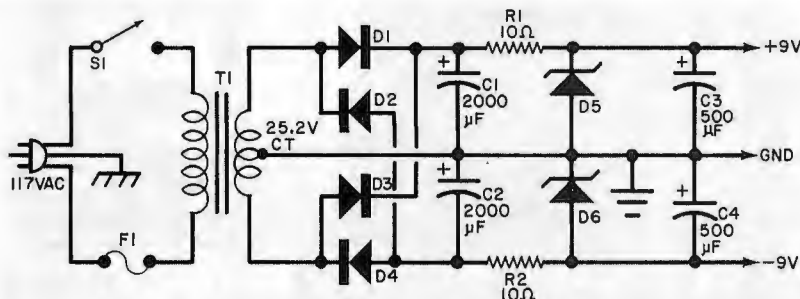

Fig. 4. Power supply for the filter. Bipolar supply features zener regulation.
Microphone Amplifier. The basic simplicity of op-amp amplification is shown in Fig. 4. The two modes—low- and high-input impedance—correspond to the two differential op-amp input connections. In using a single-ended input for a microphone, you
Fig. 4. Low-impedance microphone can be used with circuit (A) and a high-impedance unit with (B). Since 741 is frequency-limited, a 748 (externally compensated) can be used to extend the range.
The op amp requires a bi-polar power supply. Since the audio module requires +9 volts, we decided to use a ± 9 -volt supply for both IC's. This can be obtained from a small full-wave zener-regulated power supply (Fig. 4). Alternatively, two 9-volt transistor batteries can be used, but you might find that they will run down rather quickly. Unless portable operation is desired, it's best to use the line-powered supply suggested.